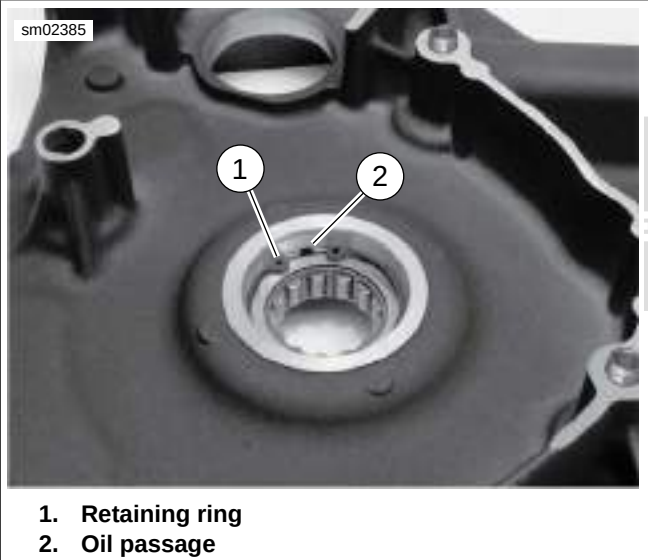

Figure 5-20. Retaining Ring Orientation
6. See Figure 5-20. Retaining ring (1) must be oriented as shown to prevent blocking of oil passage (2). Install retaining ring to lock position of bearing in bore. Verify that the ring is fully seated in the groove and is in proper orientation.